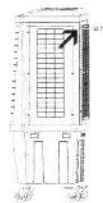

figure 1
1. Loosen 6 screws with Philips screwdriver, as figure 1.